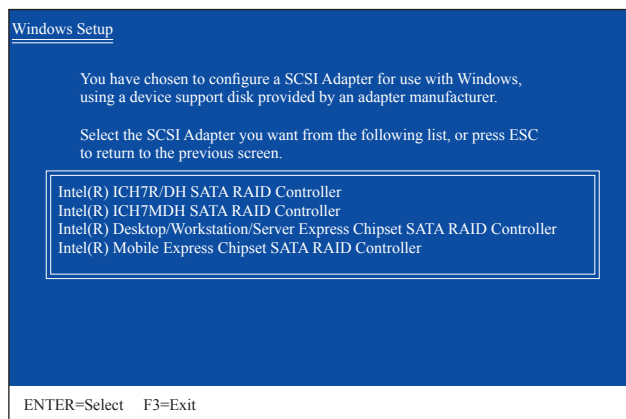

Figure 2
Insert the floppy disk containing the SATA RAID/AHCI driver and press <Enter>. Then a controller menu similar to that in Figure 2 will appear. Select **Intel(R) Desktop/Workstation/Server Express Chipset SATA RAID Controller** and press <Enter>. For AHCI mode, use the up arrow key on the keyboard to scroll to the **Intel(R) Desktop/Workstation/Server Express Chipset SATA AHCI Controller** item and press <Enter>.